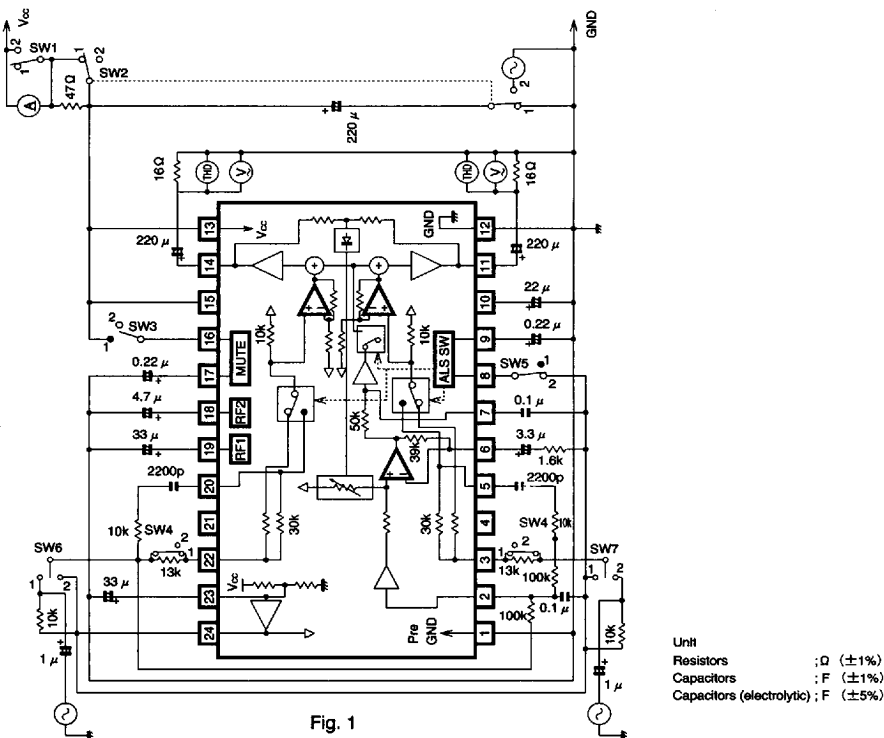

Fig. 1
- Electrical characteristics (unless otherwise indicated, $T_a = 25^\circ\text{C}$, $V_{CC} = 3.0\text{V}$, $R_L = 16\ \Omega$, $f = 1\text{kHz}$, and the Measurement circuit is as shown in Fig. 1)